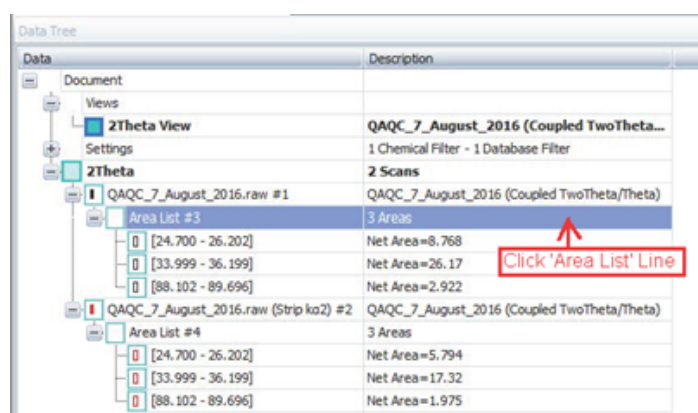

Figure 34: Data Tree panel Scan Area list.
7. Right-click on the "Area List #" subheader for background-subtracted scan and select "Create and Area Column View" (Figure 34). Do the same for the K₂ appended scan. This creates another tab on top with the Area data in column format.